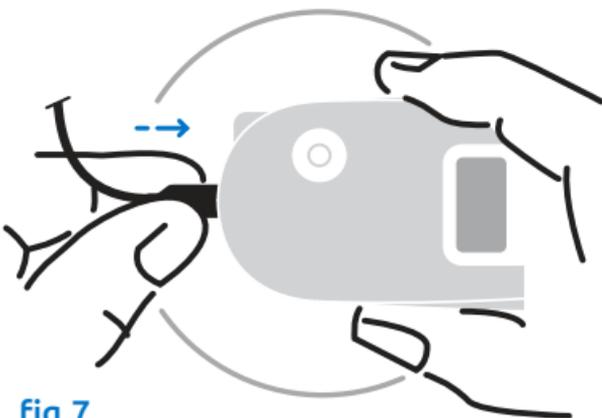

fig.7
- 3 Connect the new actuator cable plug into the driver socket, making sure to orient the plug correctly in relation to the socket, and that the plug is fully inserted and secured. *(fig.7)*